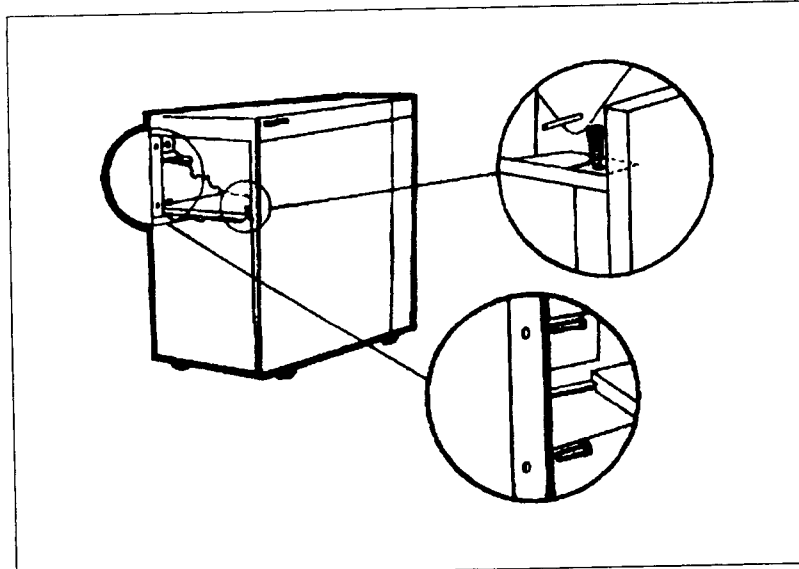

Figure 6-8. Left End Panel Mounting Bolts
- a. Remove the three 5 mm Allen screws securing the panel to the printer frame. Two of these screws are accessed from the rear of the printer and the other one from the front (see Figure 6-8).